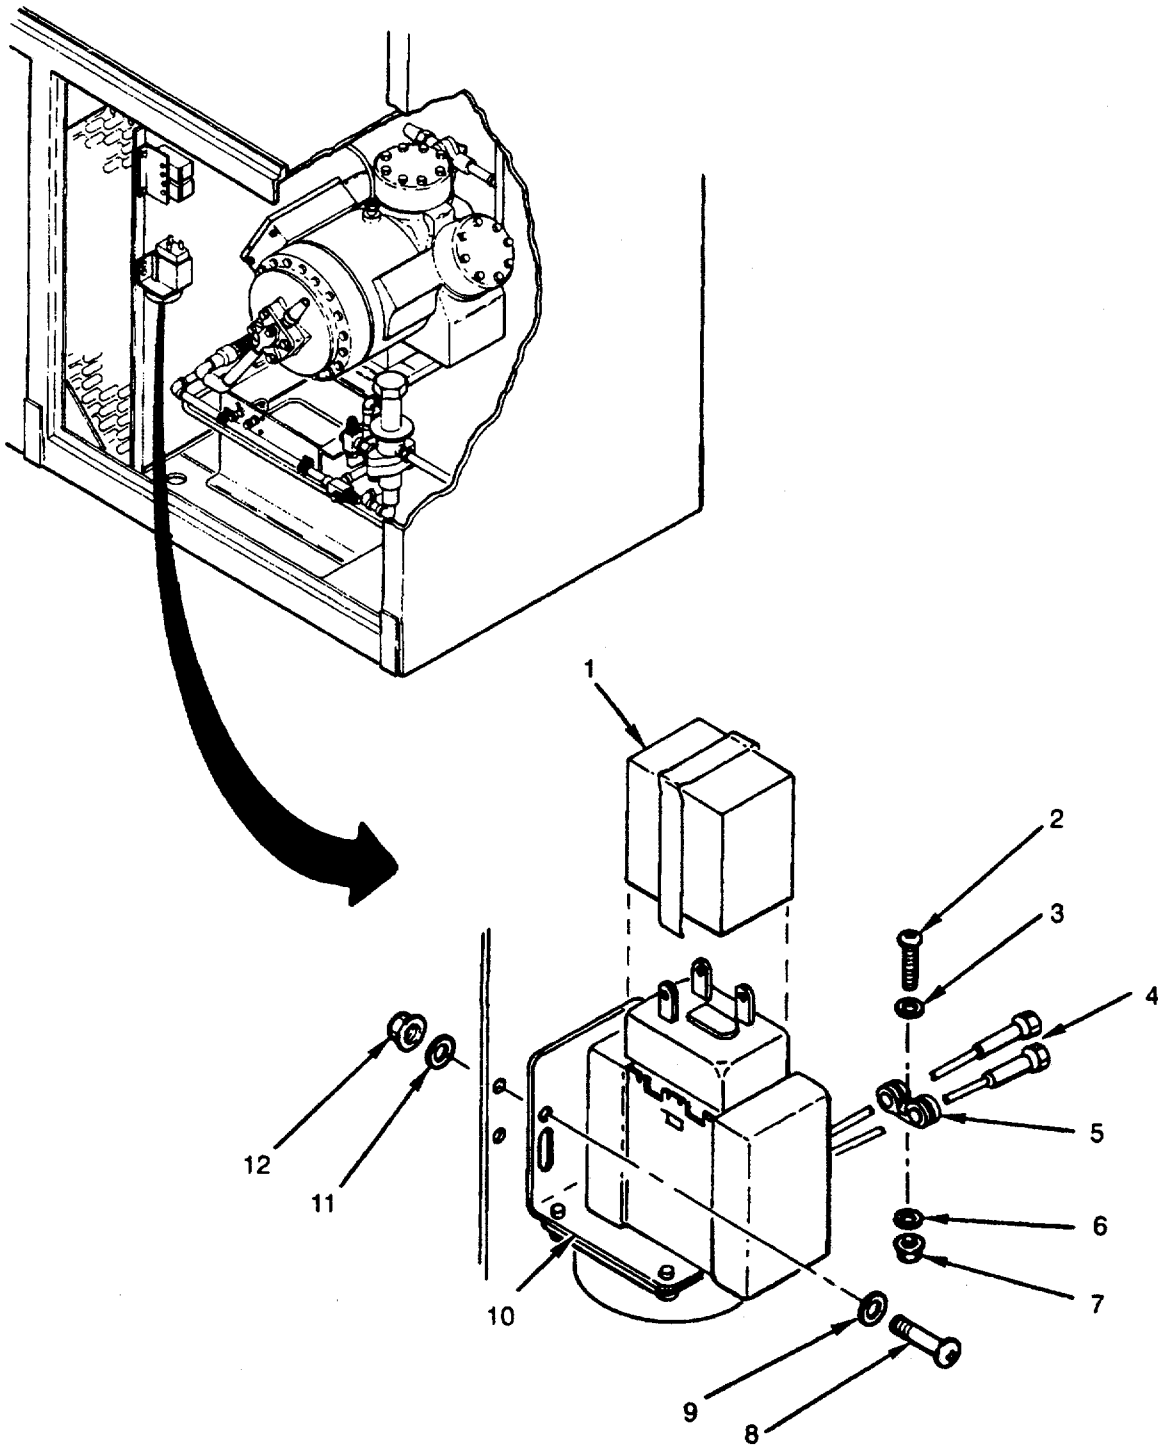

Figure 5-14. Low Oil Pressure Switch (S7)
1. Check that switch and cover are not dented, broken or cracked. Replace switch or cover, if defective (see Figure 5-14).